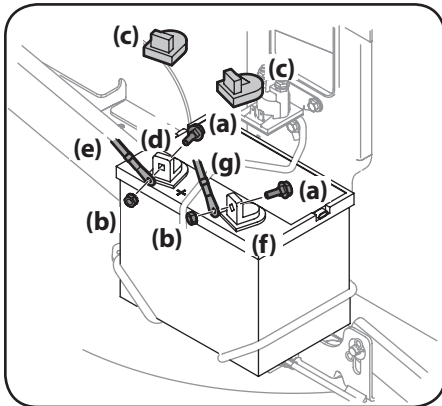

Figure 2-14
1. Remove the factory installed hex bolts (a) and sems nuts (b) located on the end of the wiring harness. Retain the hardware for later instructions. See Figure 2-14.
2. Remove the plastic cover (c), if present, from the positive battery terminal (d) and attach the red cable (e) to the positive battery terminal (b) with one of the hex bolts (a) and sems nuts (b), removed in step 1. Use a 7/16" wrench and socket. See Figure 2-14.
3. Remove the plastic cover (c), if present, from the negative battery terminal (f) and attach the black cable (g) to the negative battery terminal (f) with the remaining hex bolt (a) and sems nut (b). See Figure 2-14.